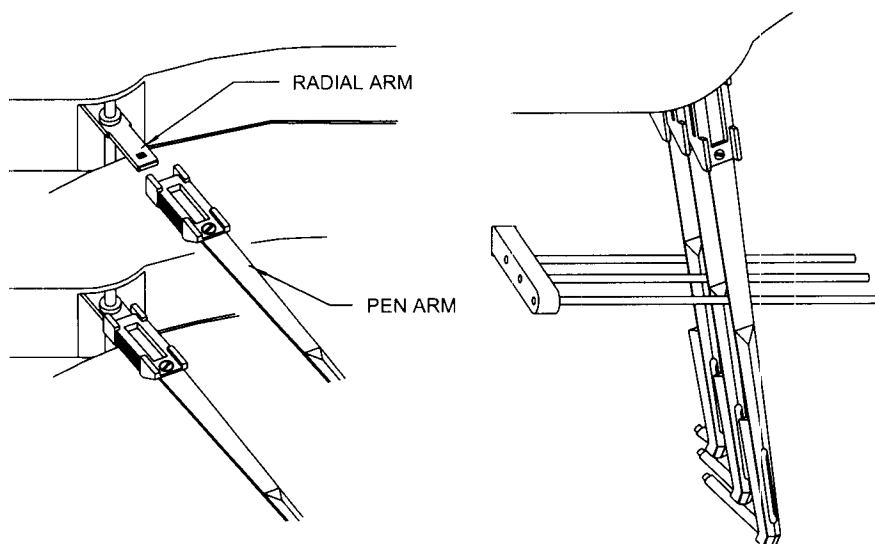

Fig 5.4 : Removal/Fitting of Pen Arm Assembly
Refer to figures 5.4 and 5.5 and follow these steps:
2. Pull the complete pen arm off the radial arm (see figure 5.4) and slide it out between the combs of the pen lifter towards the centre of the chart.